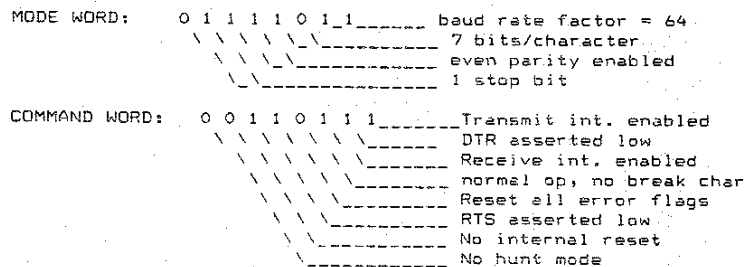

FIGURE 14-1. Bit format for the mode and command words for question 14-7a.
1. The bit format used for asynchronous serial data is shown in Figure 14-1 on page 488 of the text.
7. a. The bit patterns for the mode and command words for the 8251A are shown in Figure 14-1.